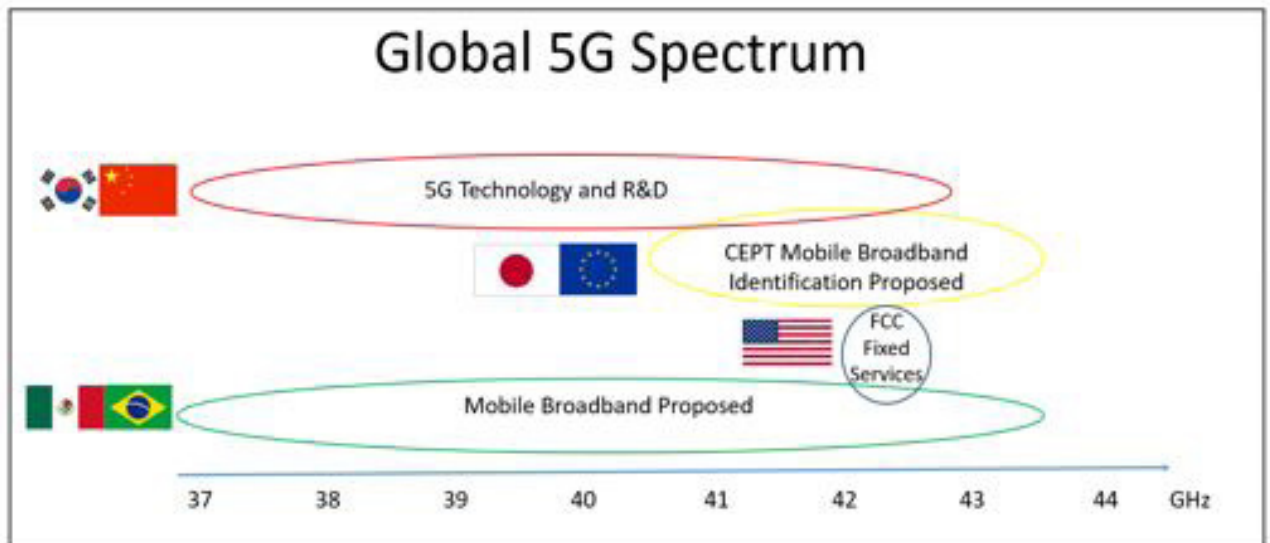

Figure 2. Global 5G Spectrum Frequency Allocations by Countries and Application [2]
While initial 5G New Radio (NR) deployments are targeting the sub-6 GHz spectrum, those in the mmWave range (above 24 GHz) will be the ones that provide immense amounts of bandwidth. The United States FCC proposed, in June 2018, using 42 to 42.5 GHz for commercial broadband or fixed services, while Brazil and Mexico have similar proposals for mobile broadband within the 37 to 43.5 GHz frequency range. Japan and the EU also have proposals in the 40.5 to 43.5 GHz range for similar mobile broadband functionality (Figure 2).